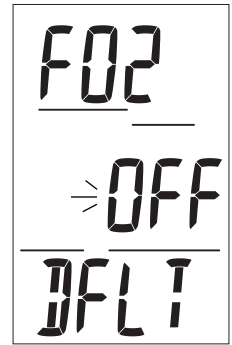

Fig. 18 - Set FO2 DEFAULT
**Set FO2 Default**, information includes (Fig. 18):